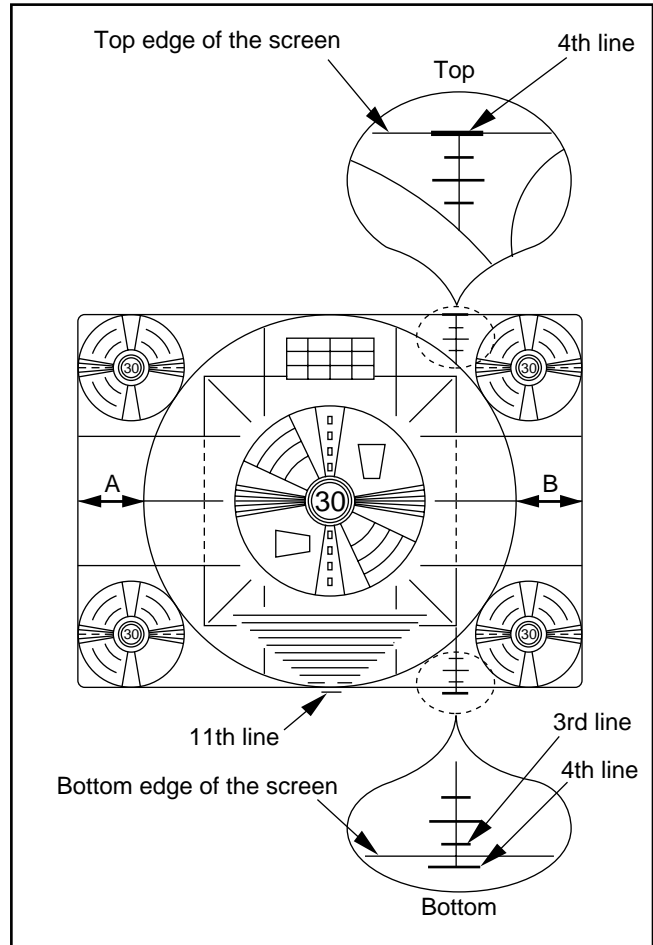

Fig. E11-2
2. Confirm that the bottom 3rd line is in view and the bottom 4th line is out of view (Refer to Fig. E11-2).
3. Adjust R532 (H. POSITION) so that length A is equal to length B as shown in Fig. E11-2.